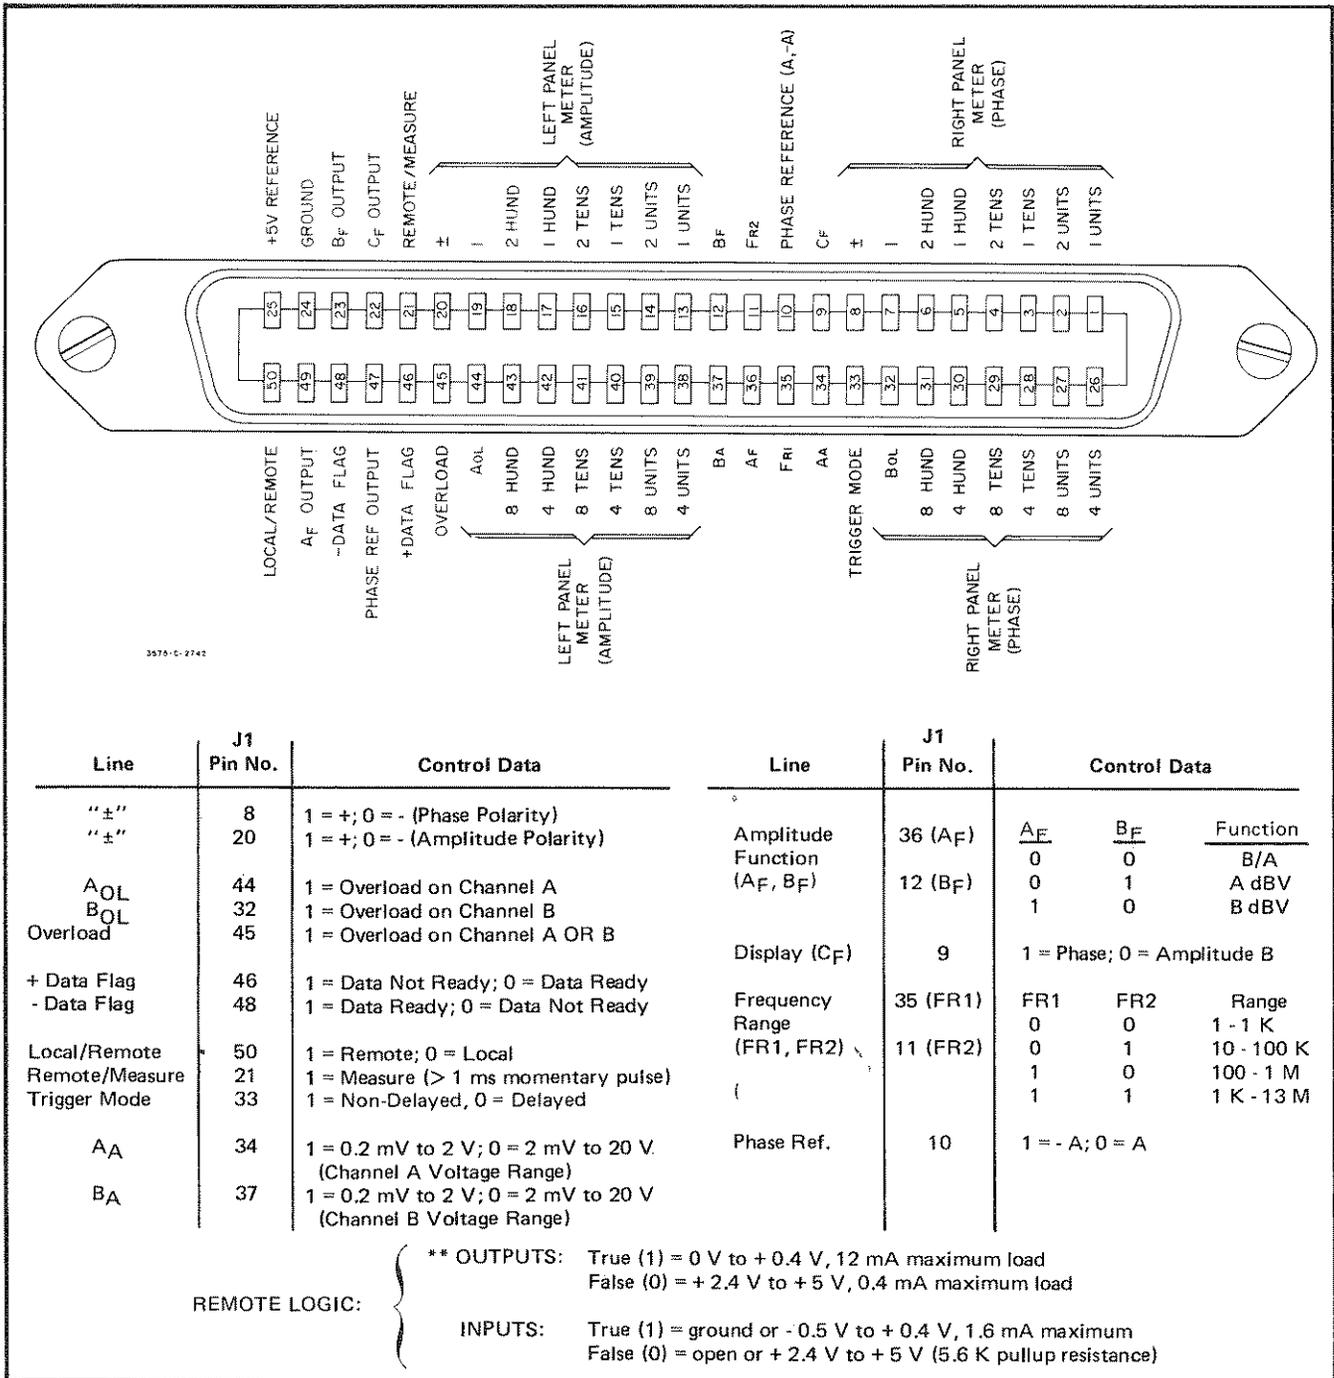

Figure 3-9. Remote Pin Connections.
**3-74. Remote Pin Connections.** Figure 3-9 illustrates the 3575A Option 002 Interface connector as viewed from the rear of the instrument. The connector diagram and the table within the figure provides complete programming information. A 50-pin mating connector (-hp- 1251-0086)\* and a 46-conductor cable are required for a complete remote programming capability (including remote control lines, BCD outputs, overload outputs, data flags, +5 V and circuit ground).